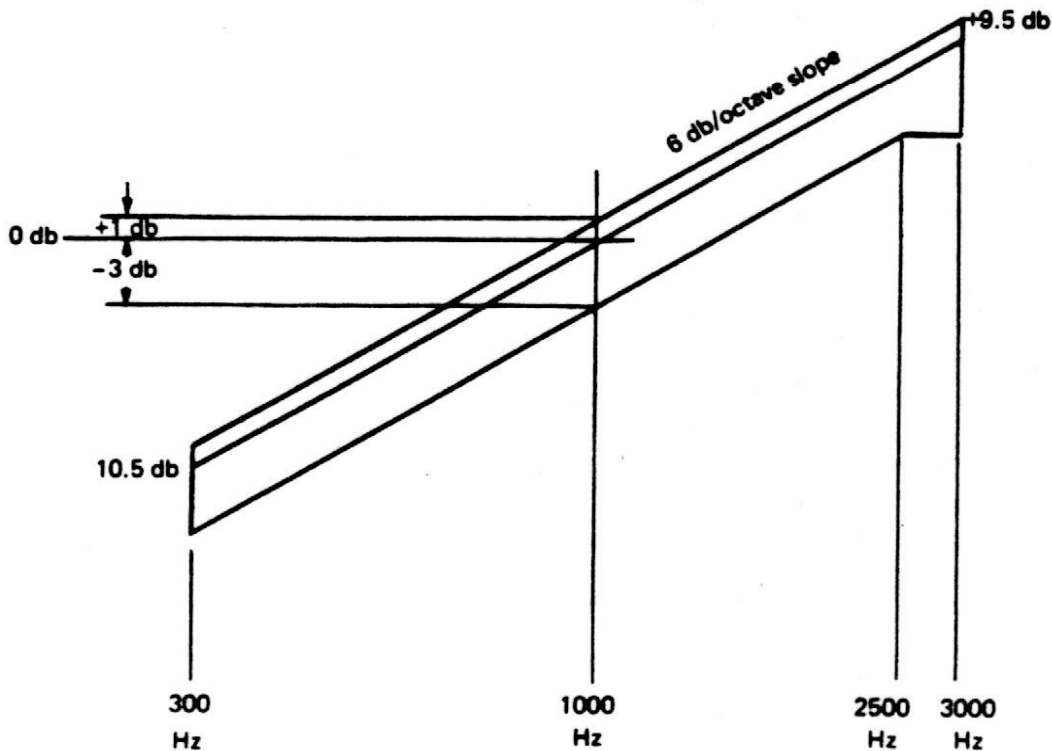

FIGURE 4-11. AUDIO FREQUENCY RESPONSE; EIA STANDARD RS-152B
7. Plot the data points obtained above in db relative to the 1 KHz Level and compare with the transmitter's specifications. EIA RS-152B specifies that a transmitter's frequency response be within $+1$ or -3 dB of a $+6$ dB per octave pre-emphasis from 300 to 3000 Hz (6 dB per octave roll-off allowed between 2500 and 3000 Hz). Refer to figure 4-11 below, Frequency Response diagram.